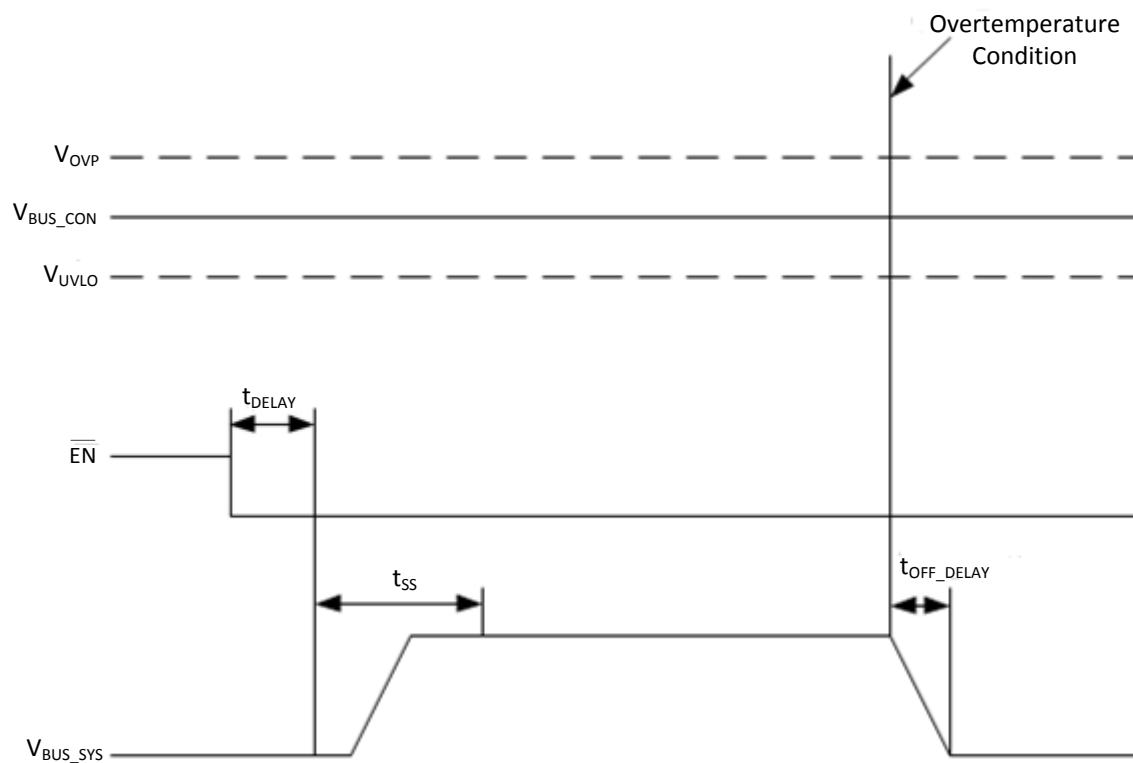

Figure 1. Thermal Shutdown Operation
(1) Shown in Figure 1.
(2) Parameters provided for reference only, and do not constitute part of TI's published device specifications for purposes of TI's product warranty.
(3) Excludes soft-start time